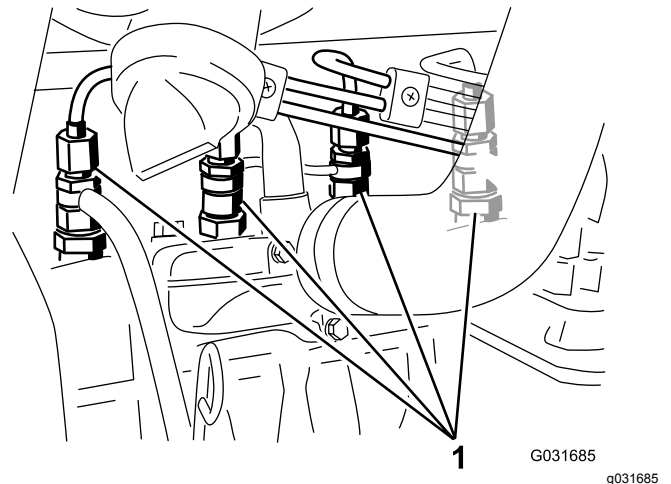

Figure 41
1. Loosen the pipe connection to the No. 1 nozzle and holder assembly (Figure 41).